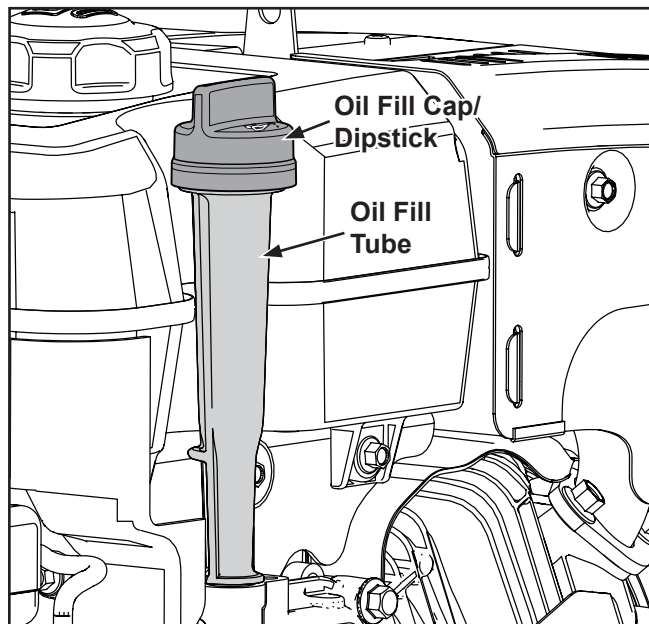

Figure 14. Oil Fill Cap/Dipstick and Oil Fill Tube.
2. Clean the area around and beneath the dipstick before removing it. This will help keep snow, ice, and other foreign matter out of the engine. See Figure 14.
6. Reinstall the oil fill cap/dipstick and tighten securely. See Figure 14.
1. To keep snow, ice, etc., out of the engine, clean the area around the oil fill cap/dipstick before removing it. See Figure 14.
2. Remove the oil drain plug and the oil fill cap/dipstick. Allow ample time for complete drainage. See Figures 14 and 16.
5. Reinstall the oil fill cap/dipstick and tighten securely. See Figure 14.